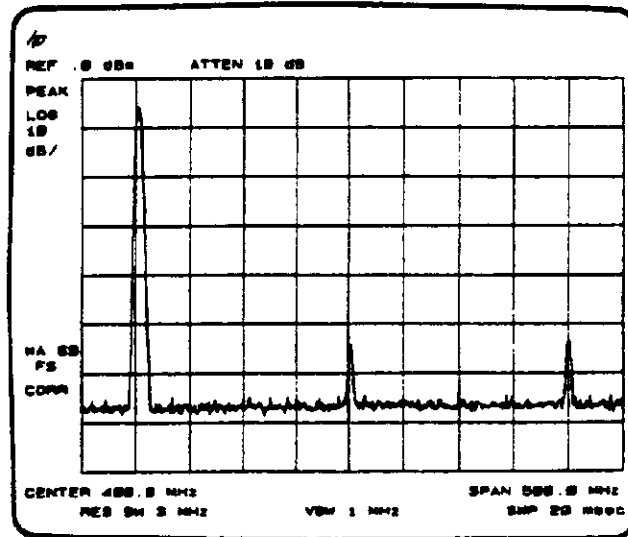

Figure 2-12
**Example:** The signal shown in Figure 2-12 produces harmonic distortion products in the analyzer's input mixer. In the following steps, determine which signals are distortion products.